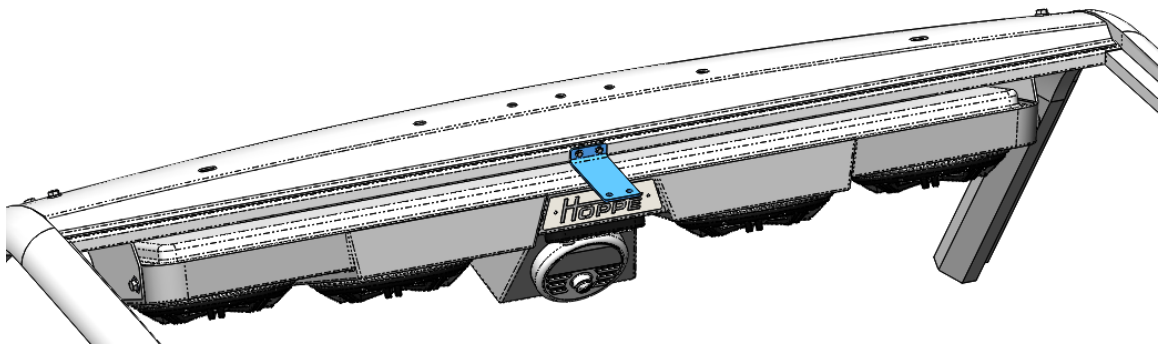

Figure 22: Mount the rearview mirror bracket.
18. Using the provided self-drilling screws, attach the rearview mirror bracket to the square cross brace tube on the visor. Center the bracket in the middle of the cage, making sure it is flush with the bottom of the square tube. See Figure 22.